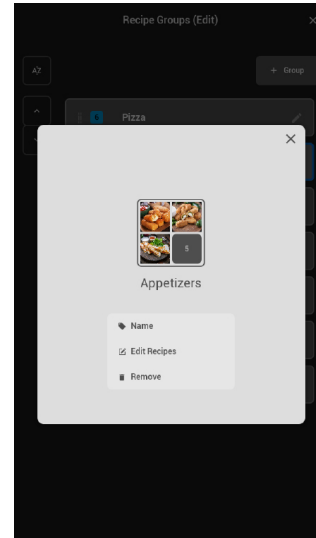

Figure 21: Edit Group Options
- Select an option (Figure 21).